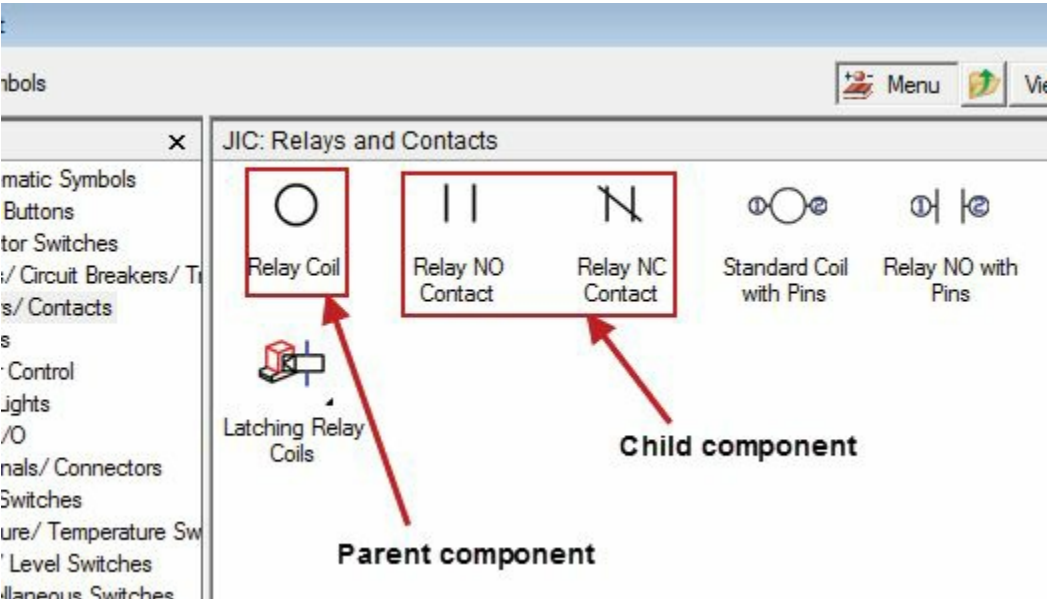

Figure-43. Parent and child components
- Select the desired option from the **Symbol** drop-down in the dialog box. There are nine options in the drop-down, **Horizontal Parent**, **Horizontal Child**, **Vertical Parent**, **Vertical Child**, **Horizontal Terminal**, **Vertical Terminal**, **Panel Footprint**, **Panel Nameplate**, and **Panel Terminal**. The Horizontal and Vertical define the orientation of component. Parent means the component can have more child components; refer to Figure-43. Also, the tag are automatically assigned same for the child component as of parent component. To check this, insert a Relay coil in the schematic drawing and specify the parameters in the **Insert/Edit Component** dialog box. After that insert **Relay NO Contact** symbol and/or **Relay NC Contact** symbol; you will not be asked to specify any parameter. Similarly, you can specify the symbol as panel footprint, terminal, or nameplate.